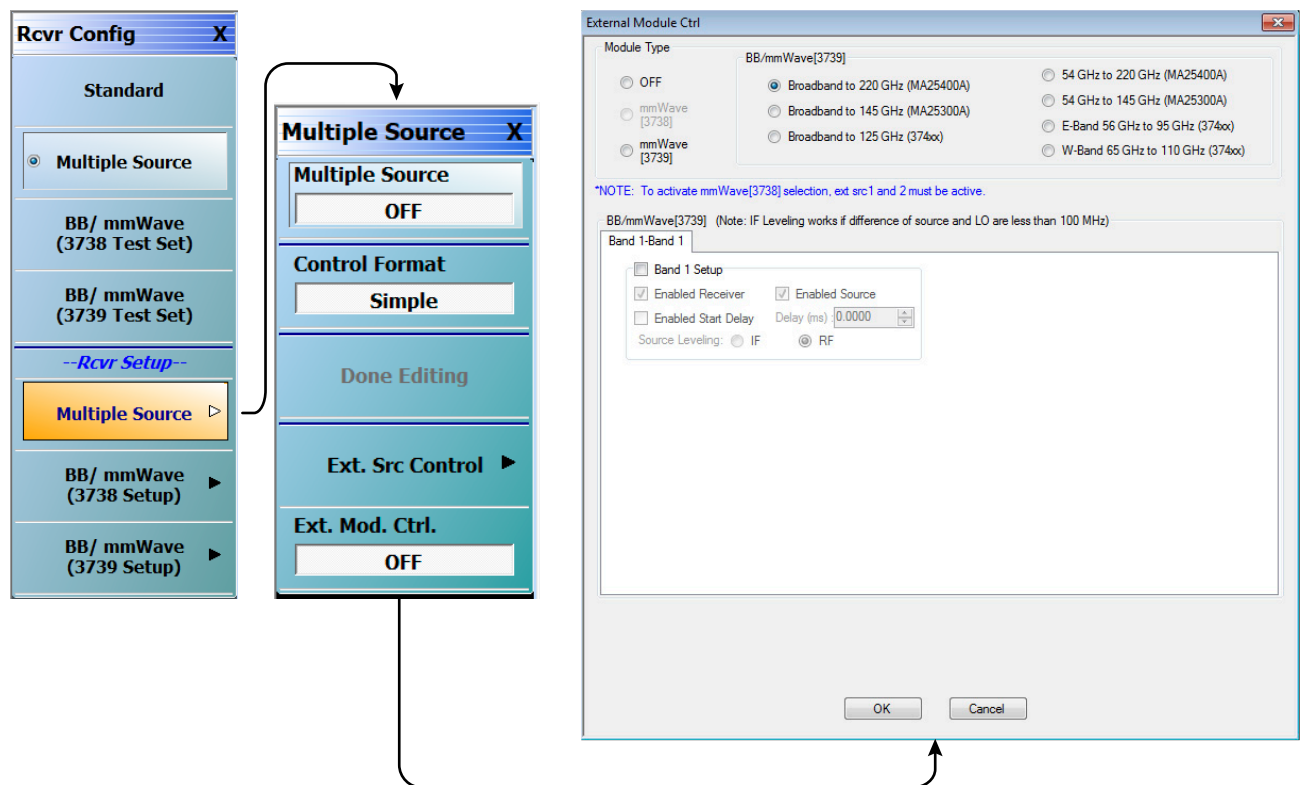

Figure 5-4. Receiver Configuration for Multiple Source (MS464xB Systems)
3. Navigate: Main | Application | Rcvr Config | (See Figure 5-4).